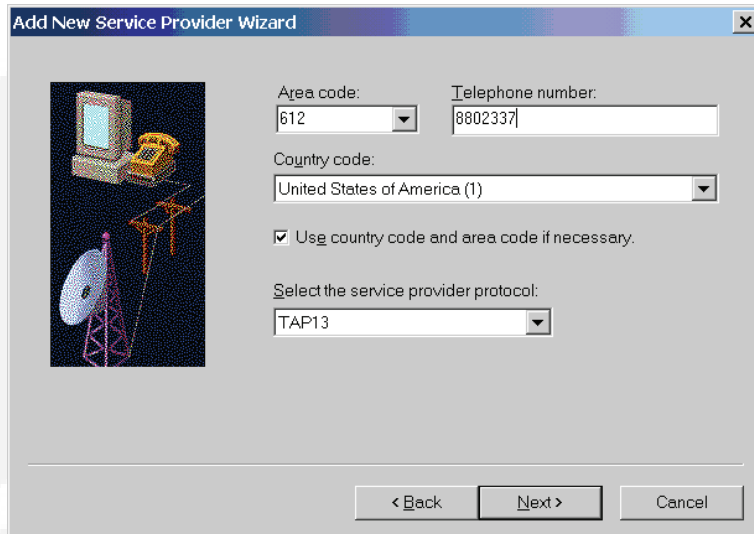

FIGURE 15-9. SERVICE PROVIDER PHONE SETTINGS
10. Select the service provider protocol from the drop-down list. Use the TAP13 selection. Click on the **Next** button to proceed. Figure 15-9.